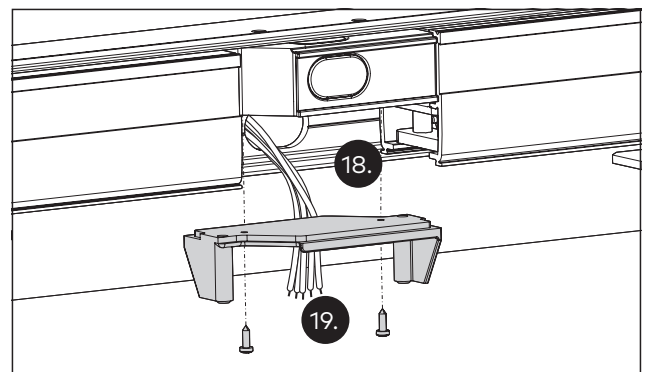

Fig. 24 Mounting the middle finger guard
- 18.** Insert the middle finger guard (Fig. 24).
- 19.** Tighten the screws (Fig. 24).